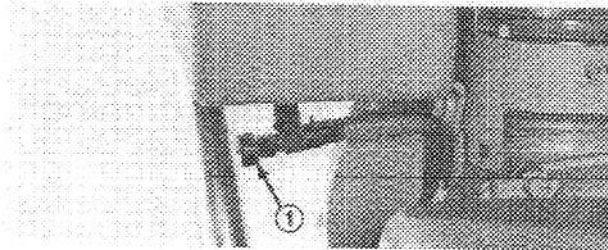

Figure 18
**Fuel Shut-Off Valve** (Fig. 18) — Valve is located under fuel tank. Close valve to stop fuel flow from fuel tank and open valve to allow fuel to flow to the carburetor. Close valve when snowthrower is not used.
2. Open fuel shut-off valve below fuel tank (Fig. 18).